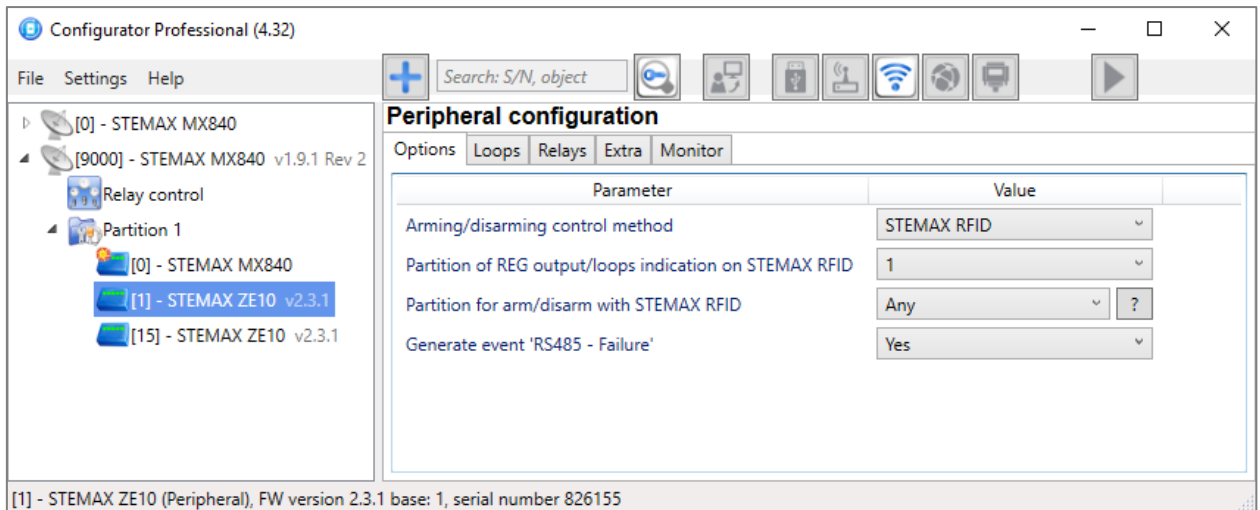

Figure 4.6. Expander configuration, *Options* tab
- *STEMAX RFID*: if the STEMAX RFID proximity reader by NPP «Stels» (no longer in production) is connected to the expander (see figure 4.6).